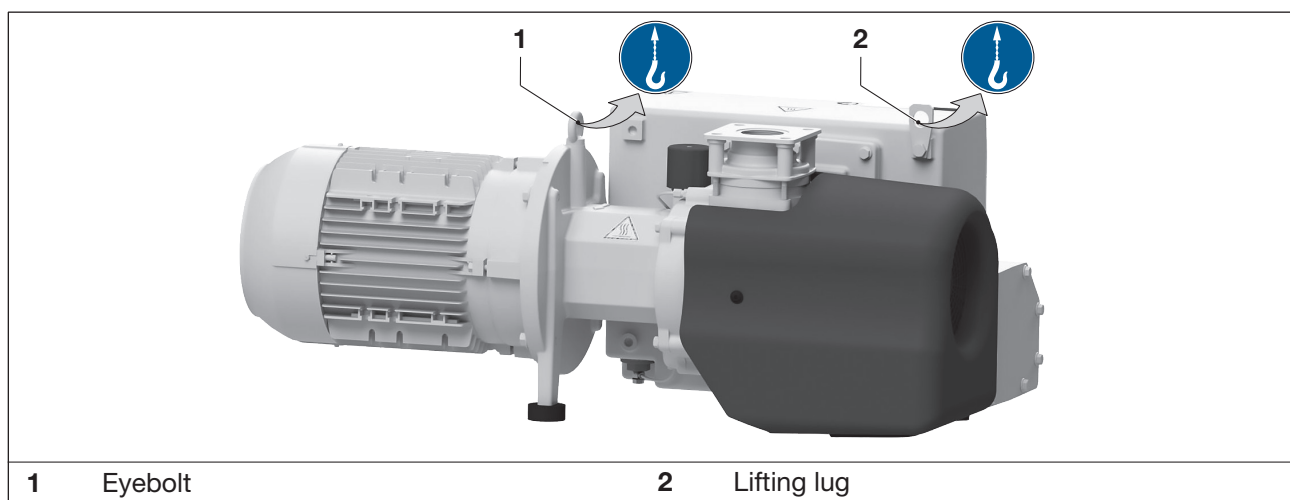

Fig. 1 Load handling equipment for lifting and transporting
- b) Tighten the eyebolt (Fig. 1/1) firmly.
- c) For lifting the machine, it must be suspended on the eyebolt and the lifting lug (Fig. 1/2) using the lifting device.